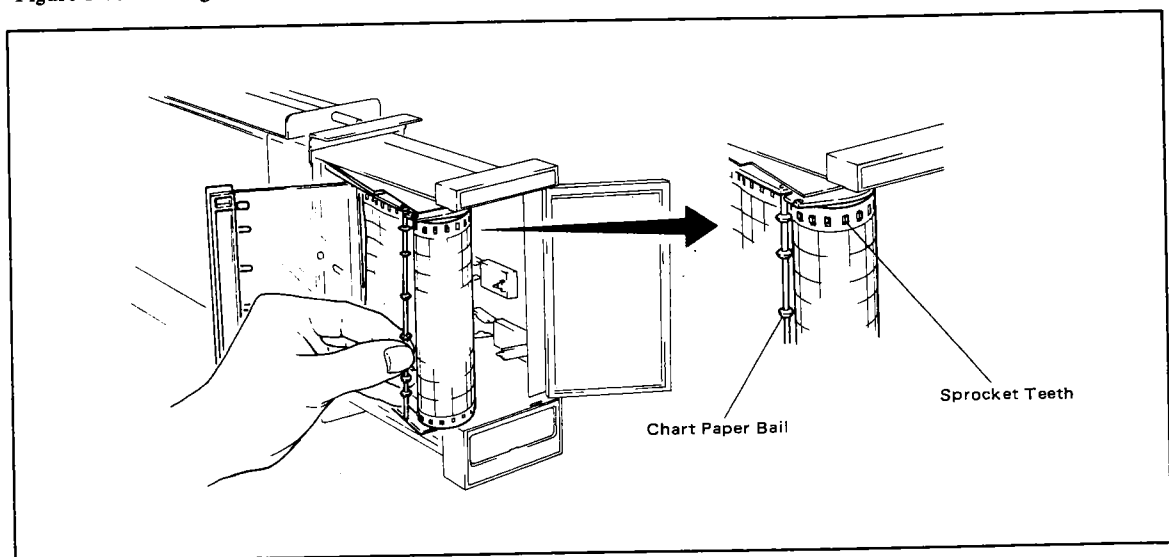

Figure 5-10. Chart Loading (2).
- (5) Pull out the chart end. Carefully engage the square holes in the chart (both at the top and bottom) with the sprocket teeth (See Figure 5-10) and then attach the chart paper bail.
- (6) Eliminating Chart Slack.